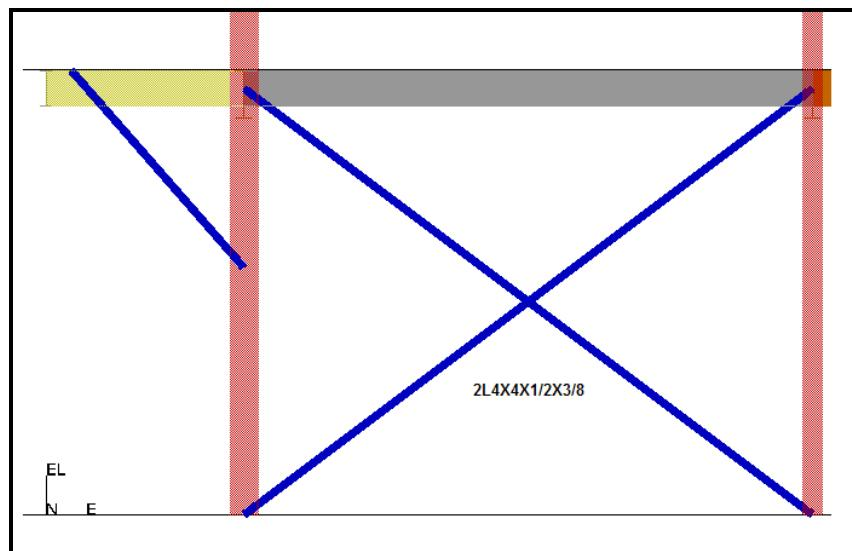

Figure 7 – North View of the Structure U03
7. Select first column for the first SmartStep (See figure 7).